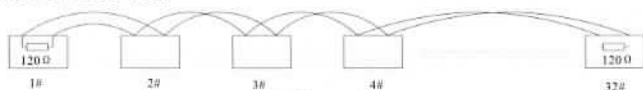

Figure 1
a) The RS485 standards require a daisy-chain connection between the equipment. There must be termination resistors with  $120\ \Omega$  impedance at both ends of the connection. (refer to Figure 1). Please refer to Picture 2 for simple connection. "D" should exceed 7m.